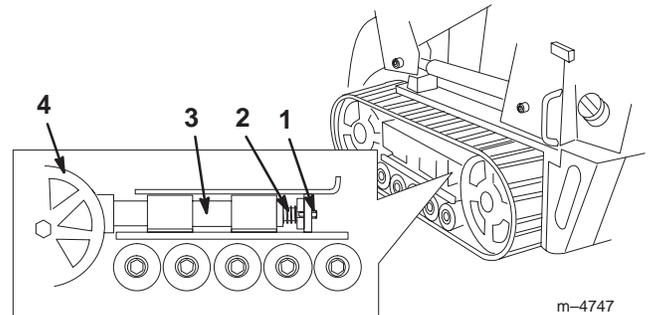

Figure 35
3. Remove the locking bolt and nut (Fig. 35).
5. Align the closest notch in the tension screw to the locking bolt hole and secure the screw with the locking bolt and nut (Fig. 35).
4. Using a 1/2 in. drive socket, release the drive tension by turning the tensioning screw clockwise (Fig. 35 and 36).